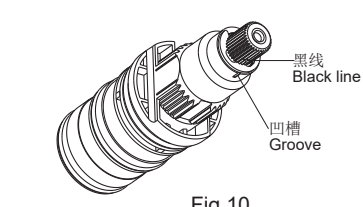

Fig.10
**注意：**确保拆卸、安装过程中不要转动温控阀轴。如不小心转动了阀轴，要调整阀轴使外齿上的黑线标识与相邻的塑料套上的凹槽对齐(Fig.10)，或者按前述方法进行调整。
**NOTE:** Do not turn the cartridge when reinstalling it. If you turned it accidentally, you should adjust it and be sure that the black line is correctly in line with the groove(Fig.10), or readjust as per the steps of verification and setting.